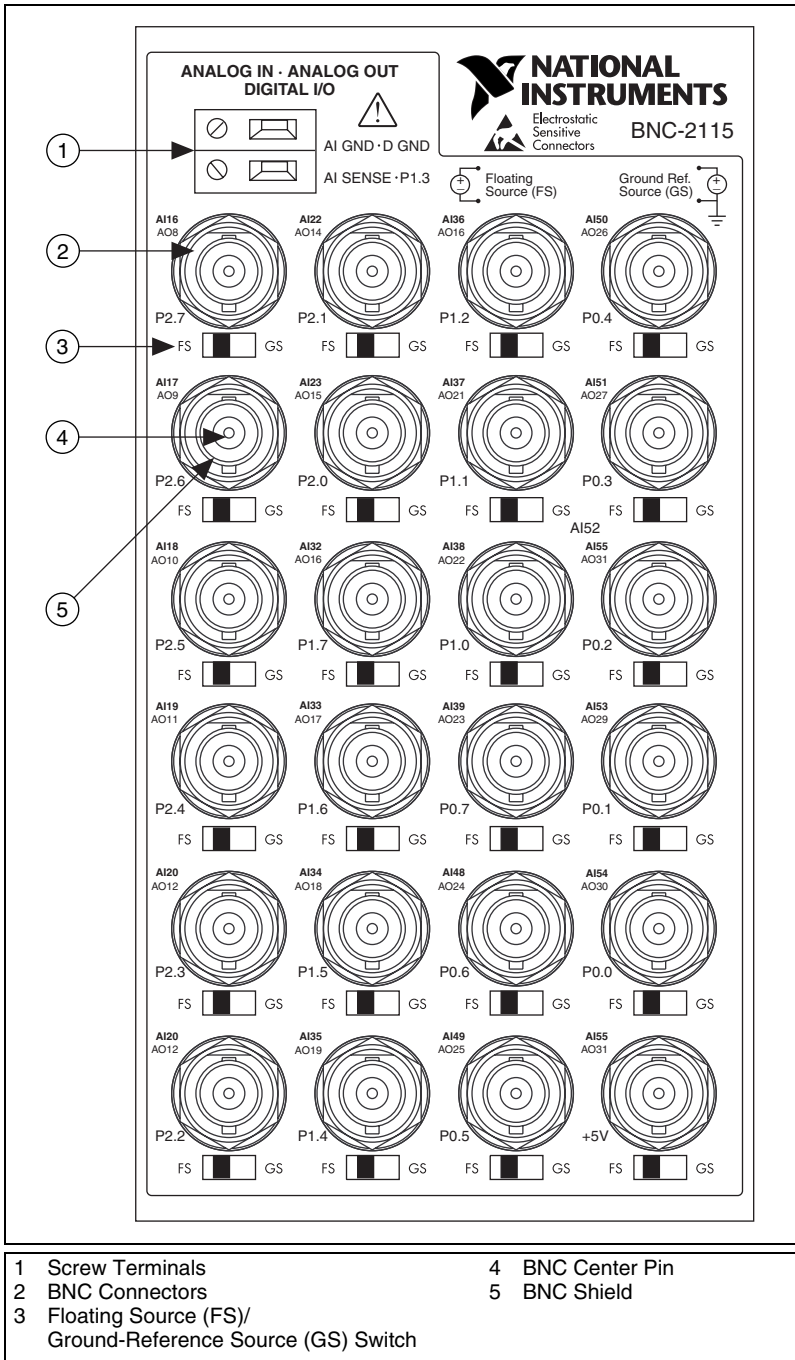

Figure 2. BNC-2115 Front Panel
This section describes how to configure the BNC-2115. Figure 2 shows the front panel of the BNC-2115
National Instruments recommends that you set the switches to the ground-referenced (GS) position when measuring analog output signals. The AO <8..31> channels correspond with the AI <16..33>, AI <32..39>, and AI <48..55> connectors. For details on how each AO signal corresponds to each AI signal, refer to Figure 2.